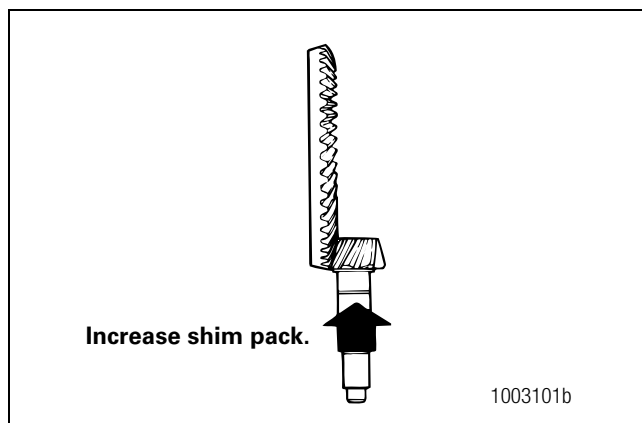

Figure 5.70
- **To correct a low contact pattern:** Increase the thickness of the shim pack under the bearing cage. When increasing the thickness of the shim pack, the drive pinion will move away from the ring gear. Figure 5.70.